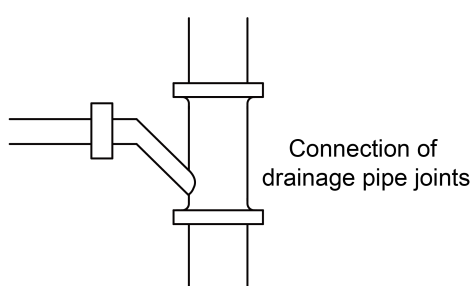
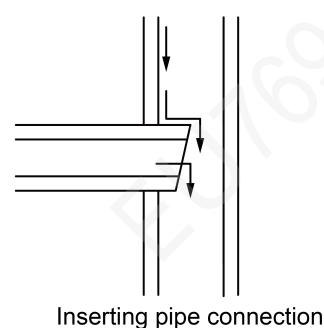

Fig 4.12
Fig 4.14
- (9) The horizontal pipe can be connected to vertical pipe in the same level; please select the connection way as shown in Fig4.12~ Fig4.14
- ① : Connection of drainage pipe joints (Fig 4.12)
③ : Inserting pipe connection (Fig 4.14)
- (10) The installation height of raising pipe for drainage should be lower than 850mm. The gradient from raising pipe towards drainage direction should be at least 1%~2%. If the raising pipe is vertical with the unit, the raising height should be less than 800mm.